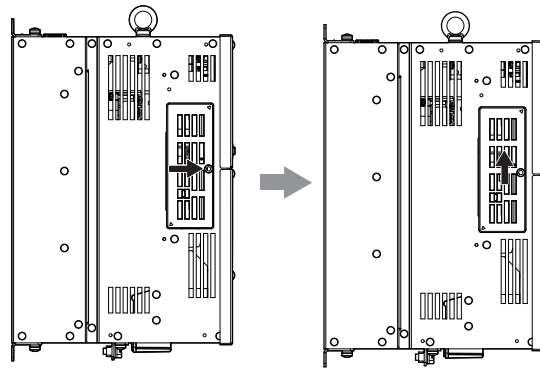

Figure 67 Sliding the CN19 Connector Cover
2. Slide the CN19 connector cover from the drive as shown in Figure 67.